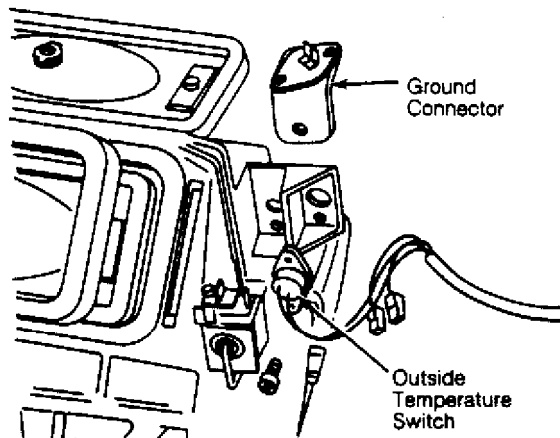

Fig. 5: Outside Temperature Switch Location
2) Bridge contacts of fresh air blower thermostich connectors. Using ohmmeter, check for continuity between control head terminal 3 and ground. If there is continuity, go to step 3). If there is no continuity, repair open circuit between control head and thermostich ground. See Fig. 5.